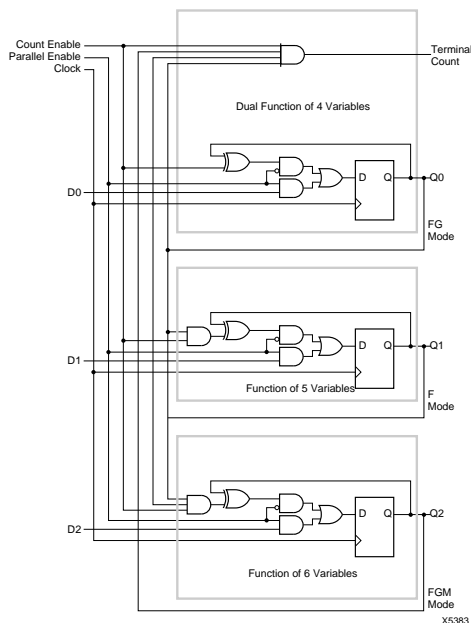

Figure 7: C8BCP Macro.
The combinatorial-logic portion of the CLB uses a 32 by 1 look-up table to implement Boolean functions. Variables selected from the five logic inputs and two internal block flip-flops are used as table address inputs. The combinatorial propagation delay through the network is independent of the logic function generated and is spike free for single input variable changes. This technique can generate two independent logic functions of up to four variables each as shown in Figure 6a, or a single function of five variables as shown in Figure 6b, or some functions of seven variables as shown in Figure 6c. **Figure 7** shows a modulo-8 binary counter with parallel enable. It uses one CLB of each type. The partial functions of six or seven variables are implemented using the input variable (E) to dynamically select between two functions of four different variables. For the two functions of four variables each, the independent results (F and G) may be used as data inputs to either flip-flop or either logic block output. For the single function of five variables and merged functions of six or seven variables, the F and G outputs are identical. Symmetry of the F and G functions and the flip-flops allows the interchange of CLB outputs to optimize routing efficiencies of the networks interconnecting the CLBs and IOBs.